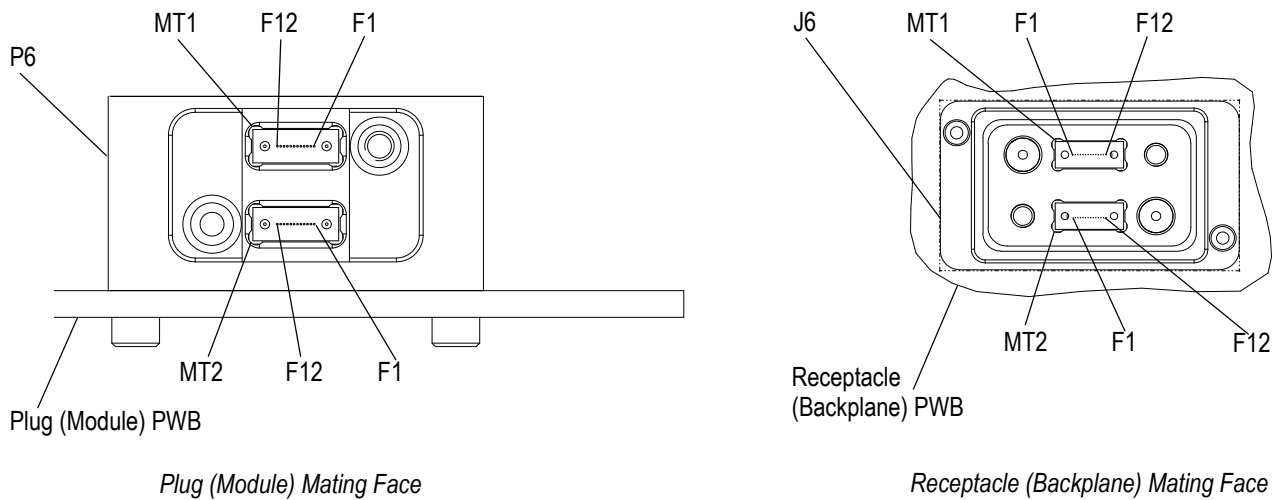

Figure 17
**D. Ferrule and Circuit Identification** (Figures 17 and 18)
The “P6” and “J6” identified in Figure 17 are shown as examples and are variable for the module and backplane position in accordance with VITA 66.0.